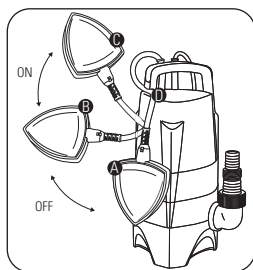

FIGURE 7.1
- When the float positions itself vertically pointing downwards, the motor pump will automatically turn off (Figure 7.1 - position A).
- If you want the motor pump to be always on, just fix the float in the fit (Figure 7.1 - position D). This way the motor pump will only turn off when you remove it and position the float downwards. **Remember that this procedure should happen with monitoring as these motor pumps cannot work without water.**